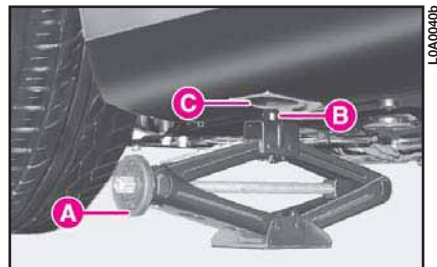

fig. 13
14) Turn the jack handle **A** (fig. 13) by hand so to open it partially and position the jack under the car.